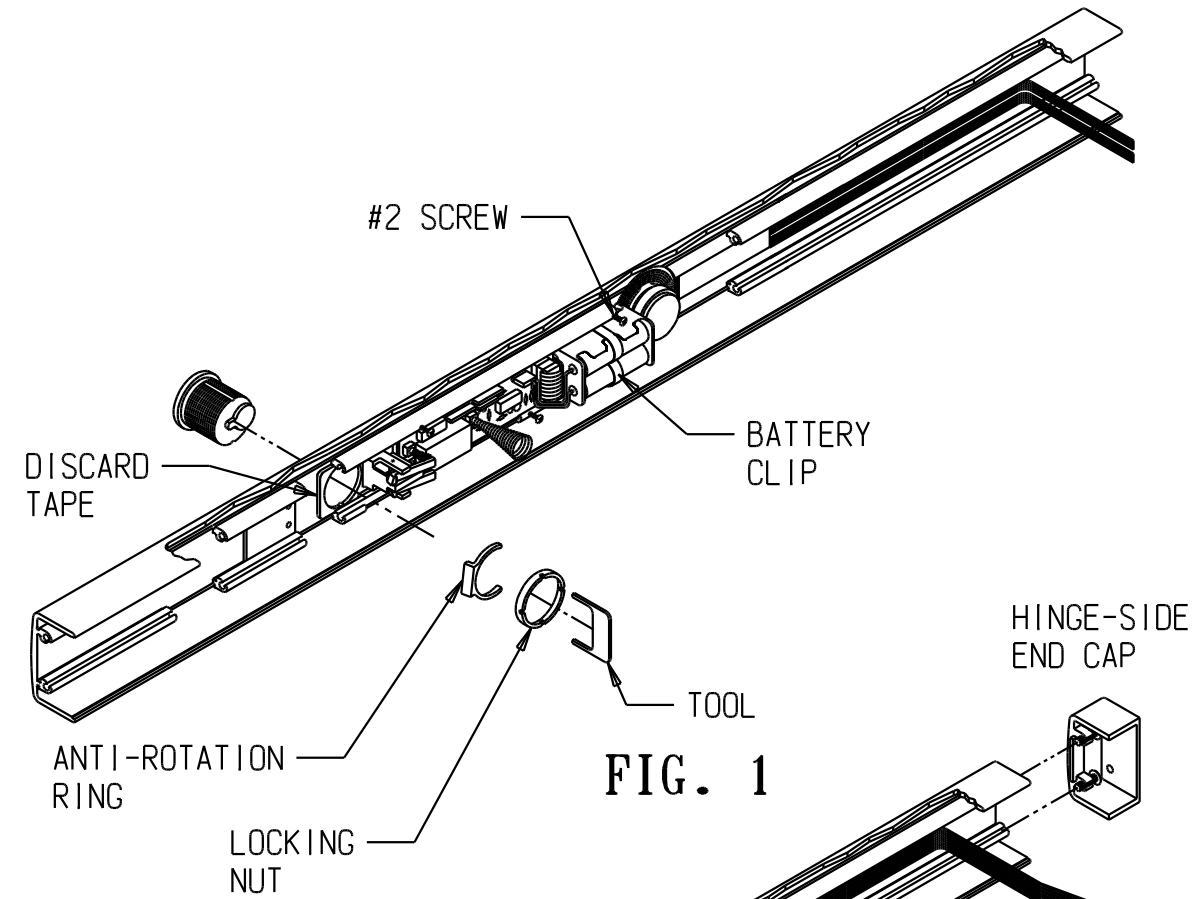

FIG. 1
INSERT BATTERIES (SEE FIG. 1 ON OPPOSITE PAGE)
(SEE FIG. 1 ON OPPOSITE PAGE)
- INSERT THE MORTISE CYLINDER AND TIGHTEN THE LOCKING NUT USING THE TOOL PROVIDED AS SHOWN IN FIG. 1. THE UNIT WILL ACCEPT FROM 1 INCH TO 1 1/8 INCH LONG MORTISE CYLINDER WITH AN M.S.[®] CAM.
MORTISE CYLINDER (SEE FIG. 1 ON OPPOSITE PAGE)